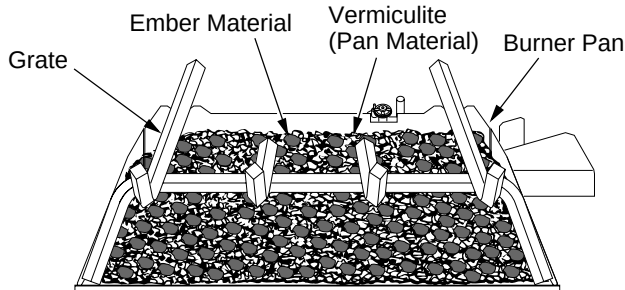

Figure 23 - Ember Material on Surface of Pan Material (Vermiculite) (P325/VP325 Models Shown)
3. Remove the ember material from the bag and flatten small amounts into quarter size pieces and lay on top of the surface of the pan material (see Figure 23, page 13).